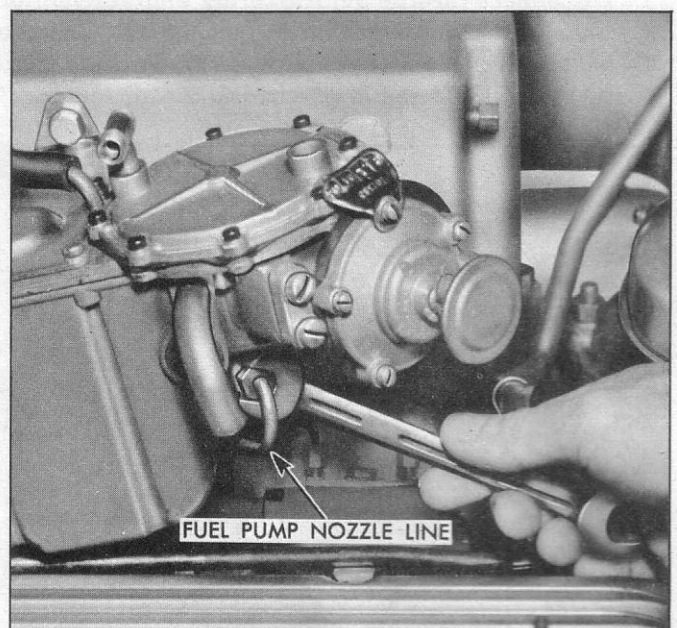

Fig. 34—Loosening Fuel Pump Nozzle Line Fitting
5. Loosen fuel pump-to-nozzle line fitting (fig. 34), but do not disengage line from meter at this time.